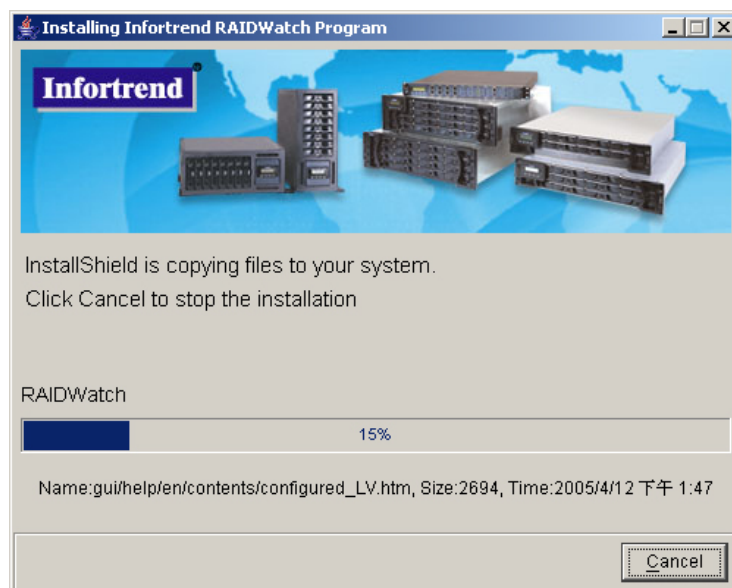
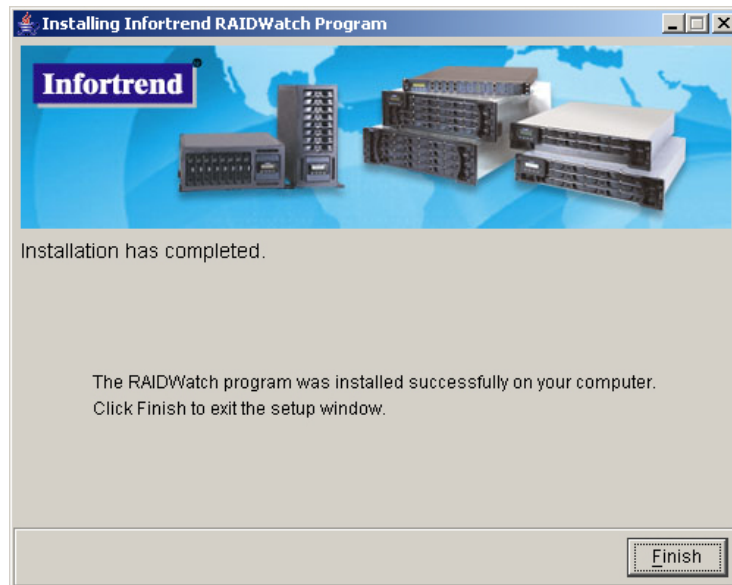

Figure 3-12: Installing Active
Figure 3-13: Successful Installation
-  **Step 2.** If the *Next* button from *Figure 3-12* was selected, the Install Active window shown in *Figure 3-13* will appear. If you wish to stop the installation procedure, then click the *Cancel* button. If you wish to continue installing the Applet components, allow the installation shield to continue through the rest of the procedure.
-  **Step 3.** Once the software has been successfully installed, a window indicating the successful installation (see *Figure 3-13*) will appear. To complete the process and exit the window, click the *Finish* button.